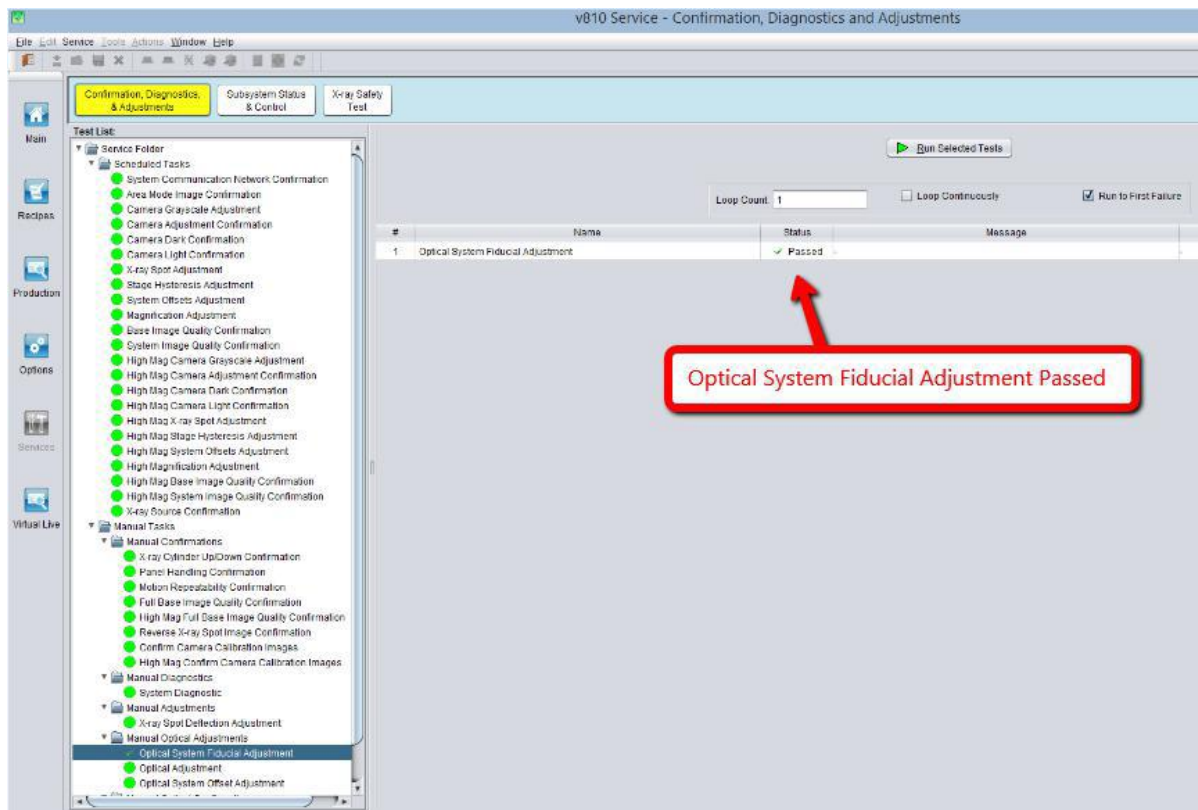

Figure 12 Optical System Fiducial Adjustment Passed
13. Optical System Fiducial Adjustment result will be illustrate as Figure 12.